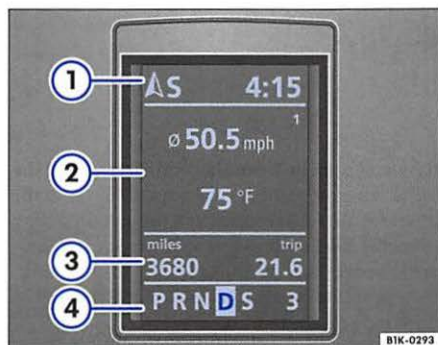

Fig. 7 Display in the instrument cluster: Multi-function display
The left-hand counter ⇒ page 11, **fig. 7** ③ in the display shows the total distance of miles (kilometers) driven.
The right-hand counter ⇒ page 11, **fig. 7** ③ shows the short trip. It shows the distance covered since the trip odometer was last reset. The